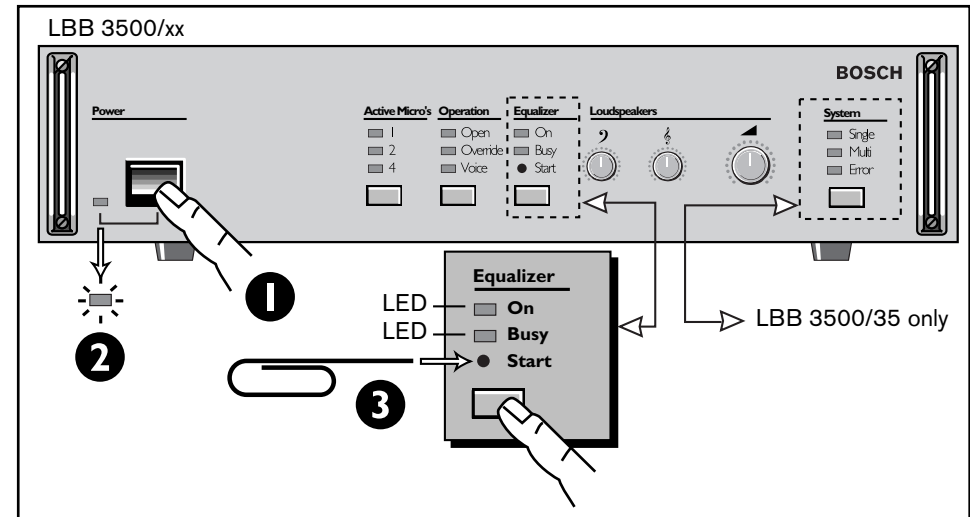

FIG 11-1 De-initializing CCU
11.1.1 Initializing a stand-alone system (FIG 11-1)
1. Press the equalizing recess switch 'Start' located on the front of the CCU to enter the microphone selection mode (FIG 11-1). Entry into this mode is indicated by an illuminated busy LED.